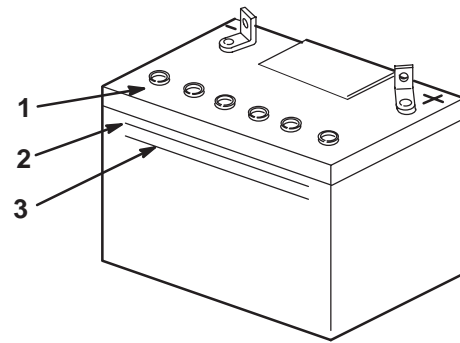

Figure 60
- Look at the side of the battery. The electrolyte must be up to the **upper** line (Fig. 60). Do not allow the electrolyte to get below the **lower** line (Fig. 60).
- Remove the vent caps from the battery (Fig. 60).
- Slowly pour distilled water into each battery cell until the level is up to the **upper** line (Fig. 60) on the battery case.
- Wait five to ten minutes after filling the battery cells. Add distilled water, if necessary, until the electrolyte level is up to the **upper** line (Fig. 60) on the battery case.